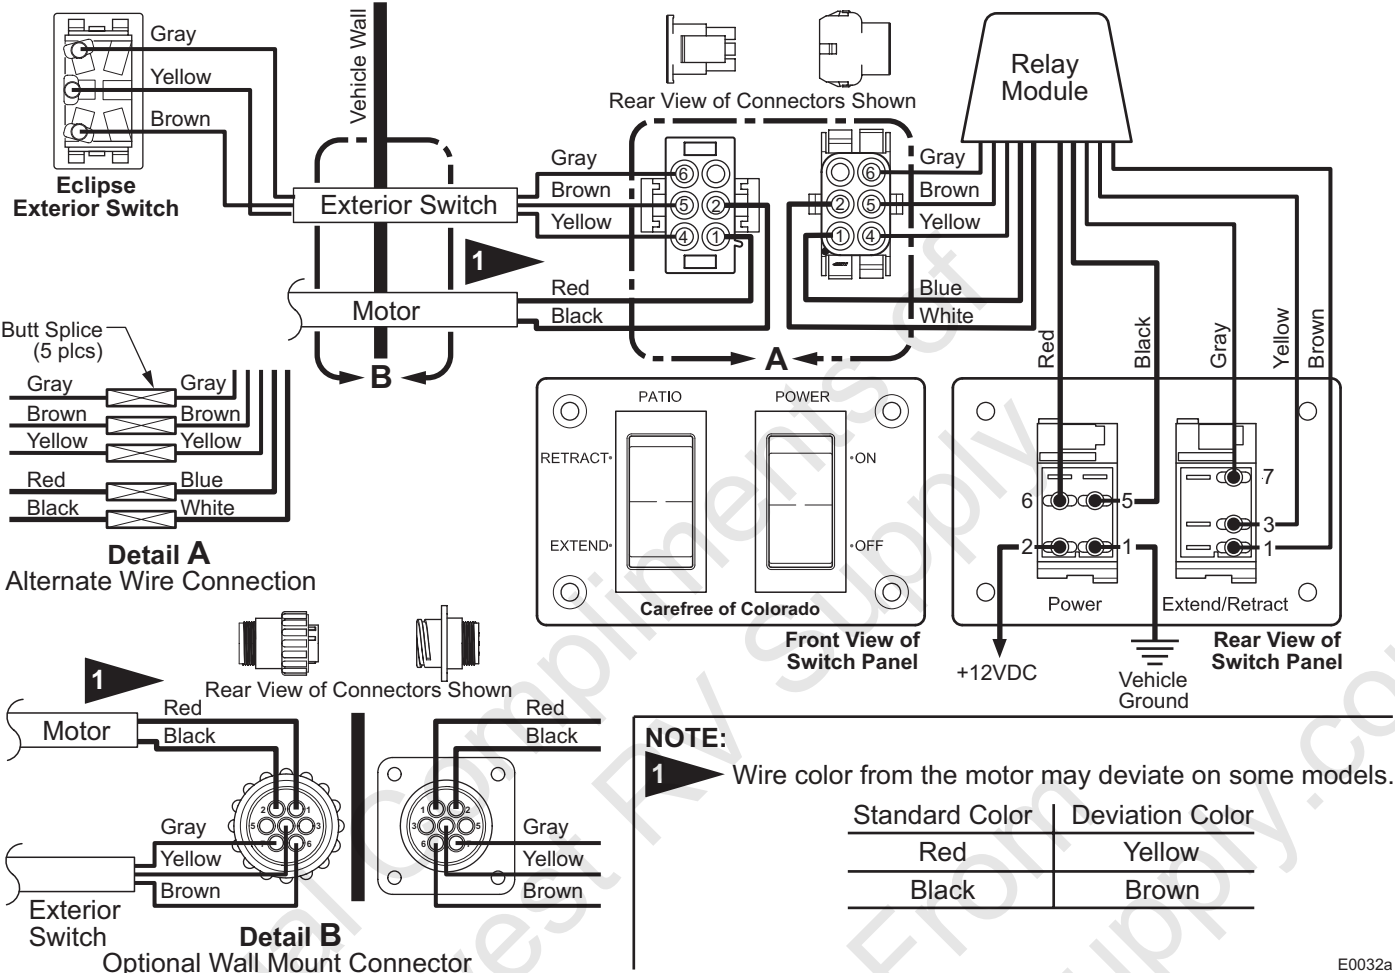

Figure 13. Eclipse Multi-Switch Wiring Diagram.
3.4 (Refer to Figure 13, Detail A) Insert the terminated wire ends into the back of the receptacle.
6. Measure and cut away any excess cable from the motor and exterior switch cables. Terminate the wires and install in the mating connector as shown in Figure 13 page 12.
9. Connect the wires from step 7 to the switches as shown in Figure 13 page 12.
12. (Refer to Figure 13, page 12) Route the two new wires through the hole and terminate with spade connectors. Connect to the power switch.